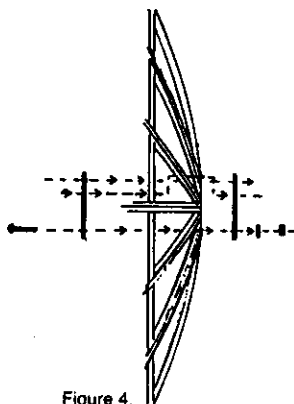

Figure 4.
STEP 4 You may stand the assembled reflector on edge for easy access to the center. Attach the center hub plates to the antenna by inserting four M8X50 carriage bolts through the front plate, between the ribs, and through the rear plate on the back side of the reflector. Be sure to use M8 washers on the rear hub plate. See Figure 4. **SECURELY TIGHTEN THE CARRIAGE BOLTS WITH A WRENCH.**